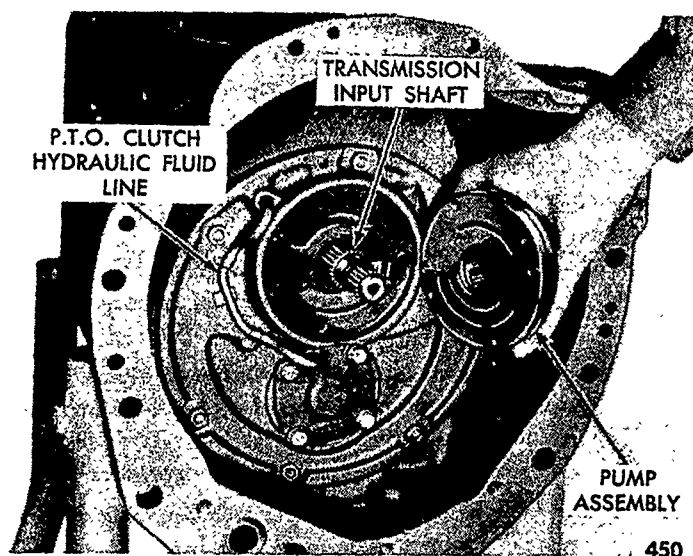
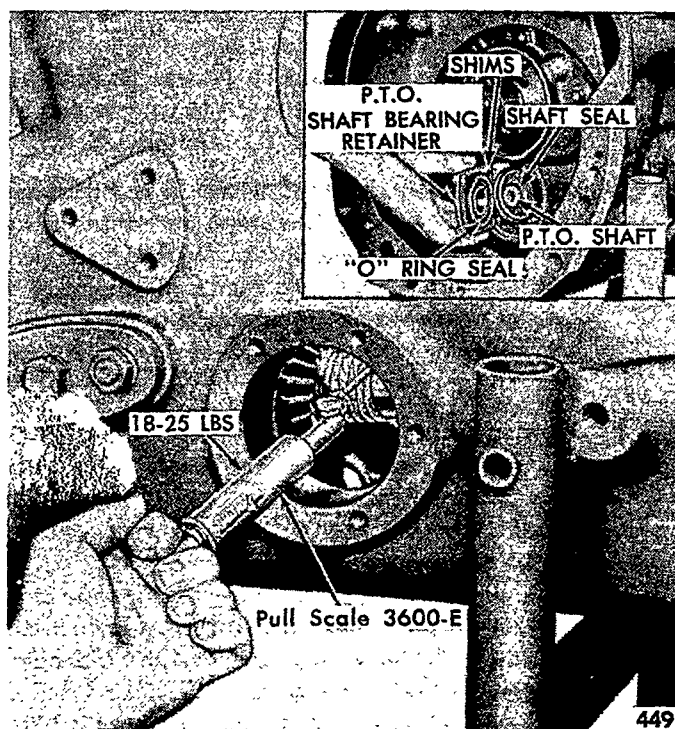

Figure 132—Installing the Pump
Figure 133—Checking P.T.O. Shaft Preload
3. Install the pump carefully over the input shaft, as shown in Figure 132, and tighten the four pump mounting bolts to 15-18 ft. lbs.
1. On Model 81 transmissions, install the P.T.O. bearing retainer and tighten the four attaching bolts to 12-15 ft. lbs. Remove the right side cover, wrap a piece of cord around the shaft spacer, and attach it to a pull scale, as shown in Figure 133. The preload should be 18-25 lbs. when checked with Pull Scale 3600-E. Preload can be adjusted by varying the size and number of shims under the bearing retainer, as shown in the insert, Figure 133. Install the side cover and the front P.T.O. clutch hydraulic fluid line, shown in Figure 132.
2. On Model 71 transmissions, install the P.T.O. shaft cover and tighten the four attaching bolts to 12-15 ft. lbs. Remove the right side cover, wrap a piece of cord around the P.T.O. shaft and attach it to Pull Scale 3600-E, as shown in Figure 133. With the rear seal removed, the preload should be 18-25 lbs. when checked with the pull scale. Preload can be adjusted by varying the size and number of shims under the shaft cover, as shown in the insert, Figure 133. Install the P.T.O. shaft rear seal. Install the side cover and the P.T.O. clutch hydraulic fluid line, shown in Figure 132.